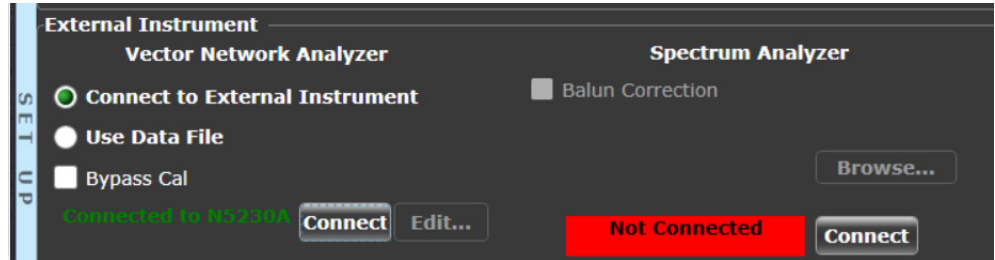

Figure 50 Connection status after the test application detects the Vector Network Analyzer
- 10 Once the 25GBASE-T Ethernet Test Application detects the Vector Network Analyzer, it is indicated on the **Set Up** tab as shown in Figure 50.